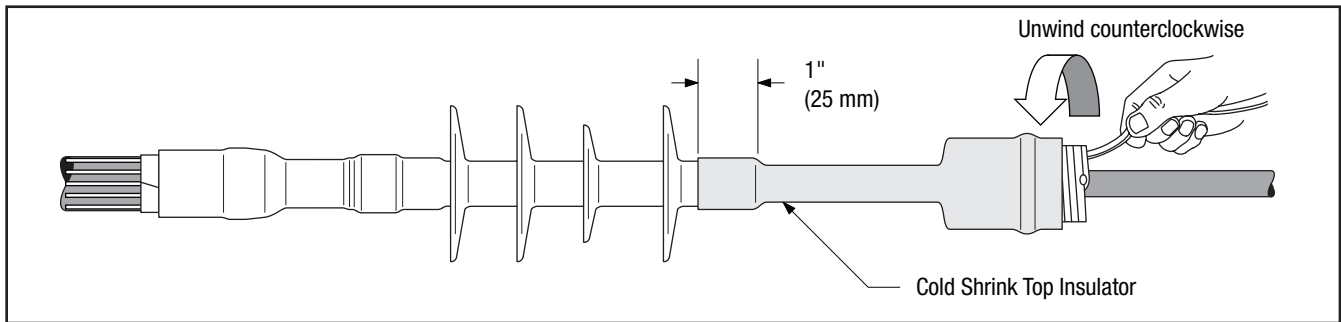

Figure 7
- 5.6 Slide the top insulator over the termination, lining up the edge of the top insulator tube (not the core) 1" (25 mm) from the termination edge and remove core. Pull the core while unwinding, counter-clockwise, starting with the loose end (Figure 7). Be sure to alternate the pulling and unwinding actions (pull-unwind-pull-unwind-etc.) to help prevent the core material from binding up as the core is being removed.